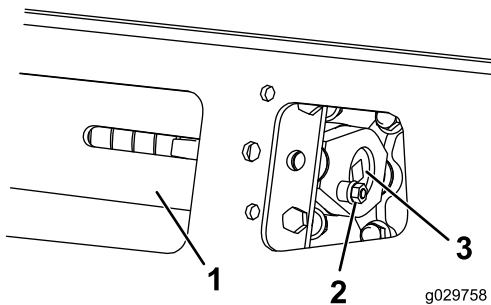
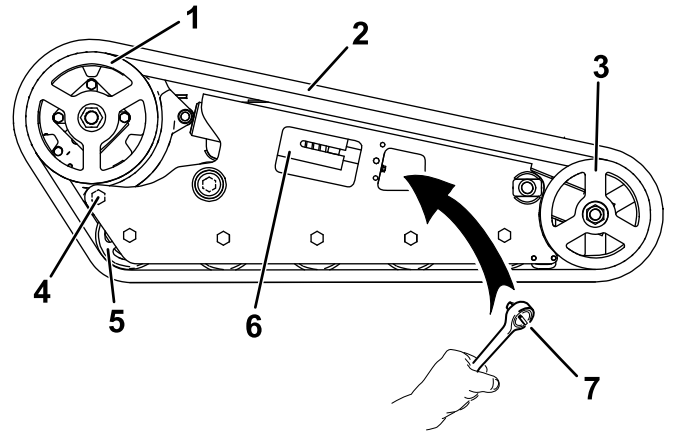

Figure 57
Figure 58
3. Remove the locking bolt and nut (Figure 57).
5. Align the closest notch in the tension screw to the locking-bolt hole and secure the screw with the locking bolt and nut (Figure 57).
4. Remove the locking bolt and nut (Figure 57).
5. Using a 1/2-inch drive ratchet, release the drive tension by turning the tensioning screw clockwise (Figure 57 and Figure 58).
6. Loosen the rear bolt, near the drive wheel (Figure 58).
8. When the track is off the front wheel, remove it from the drive sprocket and road wheels (Figure 58).
9. Wrap the track around the front wheel (Figure 58).
10. Push the track under and between the road wheels (Figure 58).
11. Coil the tracks around the drive sprocket (Figure 58).